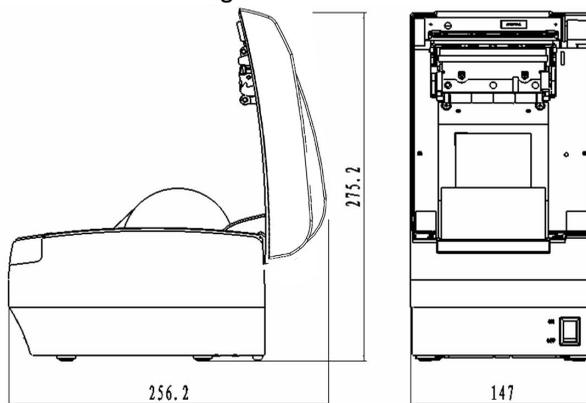

Fig. 4.2-1 Structure spaces
- 5) During operation and maintenance of the printer there should be sufficient space around the printer in accordance with the dimensions as shown in fig. 4.2-1.